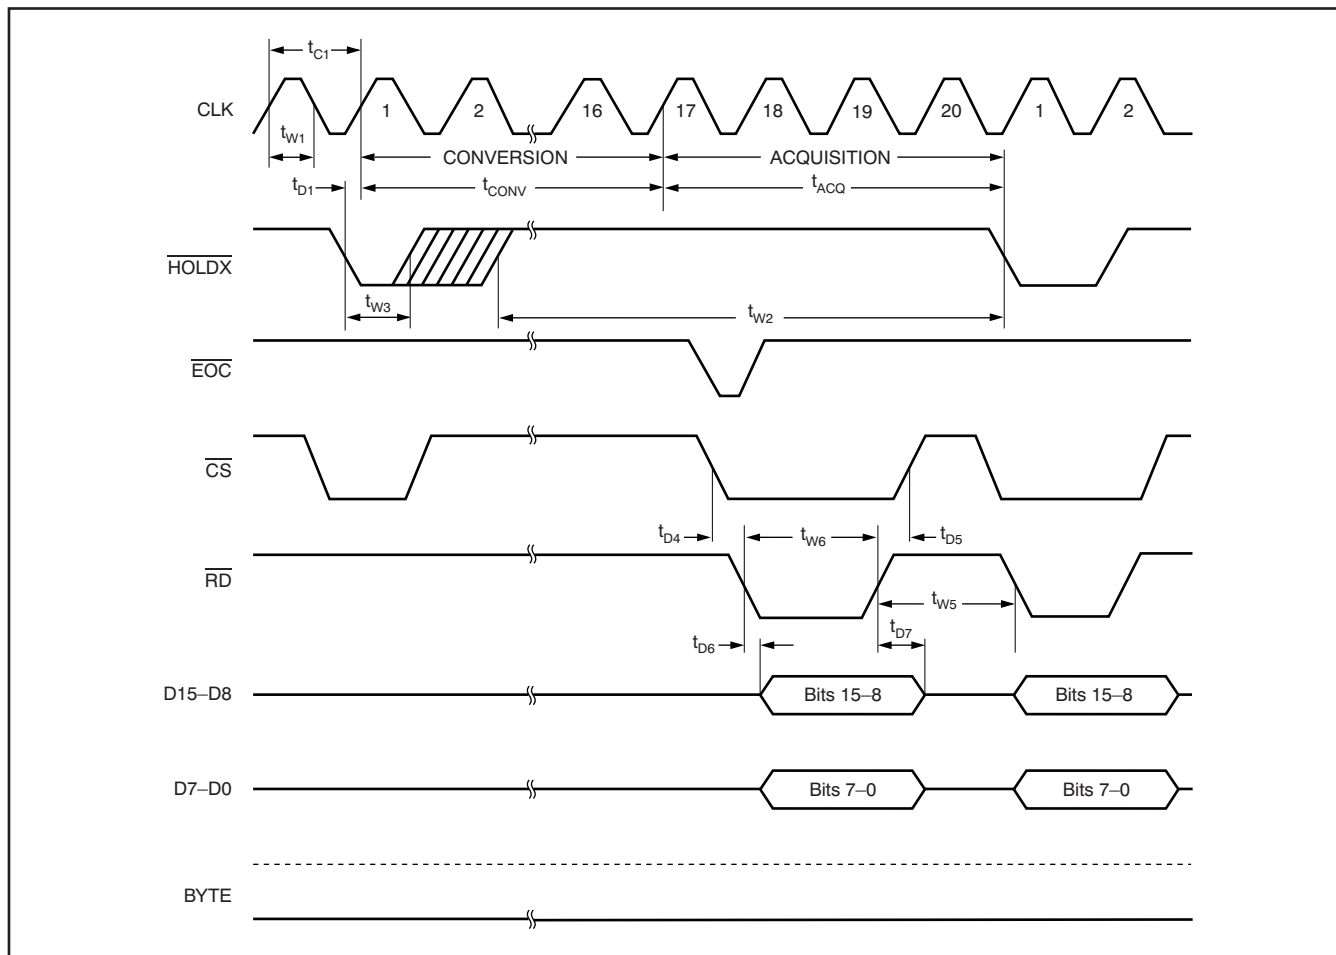

Figure 1. Read and Convert Timing
- (1) Assured by design.
- (2) All input signals are specified with rise time and fall time = 5ns (10% to 90% of BV_{DD}) and timed from a voltage level of $(V_{IL} + V_{IH})/2$.
- (3) See Figure 1.
- (4) BYTE is asynchronous; when BYTE is 0, bits 15 to 0 appear at DB15 to DB0. When BYTE is 1, bits 15 to 8 appear on DB7 to DB0. $\overline{RD}$ may remain LOW between changes in BYTE.
- (5) Only important when synchronization to clock is important.